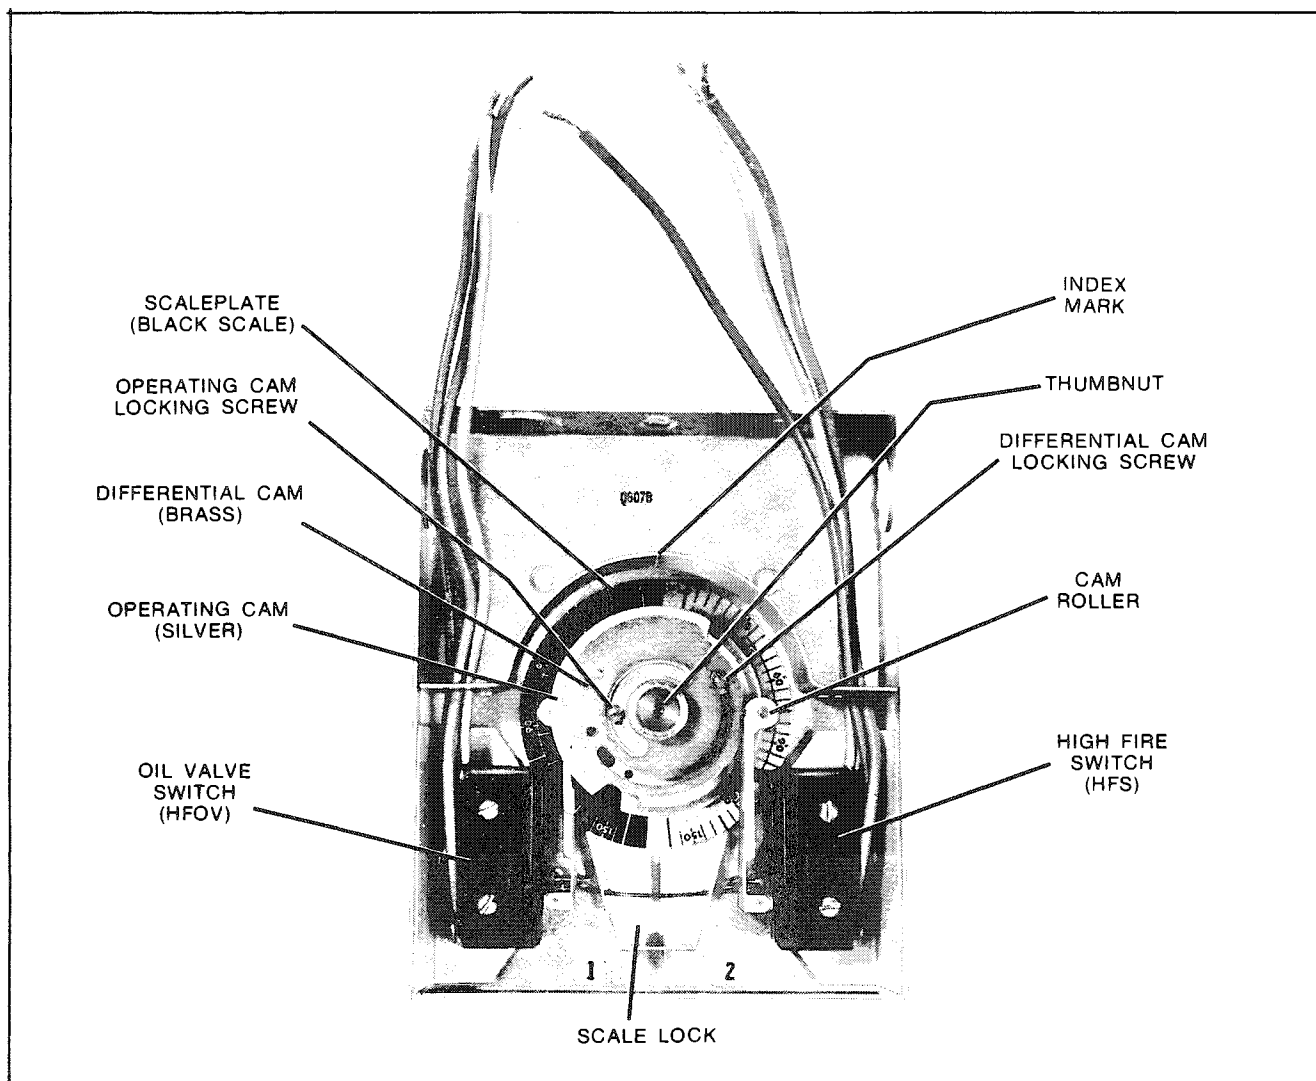

FIGURE 5-7. Q607B AUXILIARY SWITCH (TWO MICRO-SWITCHES)
- a) **BEFORE** attaching switch to the mounting bracket, depress the scale lock and rotate the scale so that the zero mark on the black scale is close to the index mark as shown in Figure 5-7.